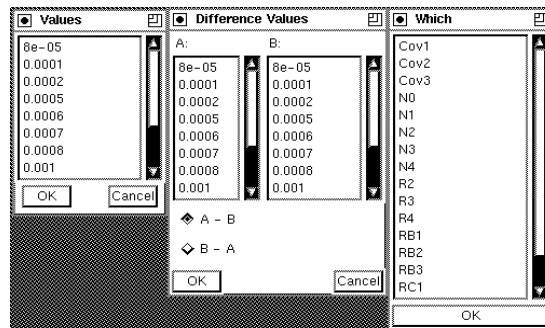

Figure 17: “Value”, “Difference Values” and “Which rewards” dialogs.
If the model has more than one varying parameter, then fixed values must be selected for the parameters. This is done by clicking at one of the buttons marked with the parameter name, and by selecting one or more of the possible values from the “Values” dialog (see Fig. 17). Default value is the first value in the list of the possible values. If more than one value is selected the parameter gets a variable mode. No more than one parameter may have the variable mode.
- Param.** By clicking at one of the buttons marked with the parameter name the “Difference Values” dialog will appear (see Fig. 17). Select one value from the
- part** Choose rewards/strategies from the “Which” dialog (see Fig. 17) theirs run should be displayed.